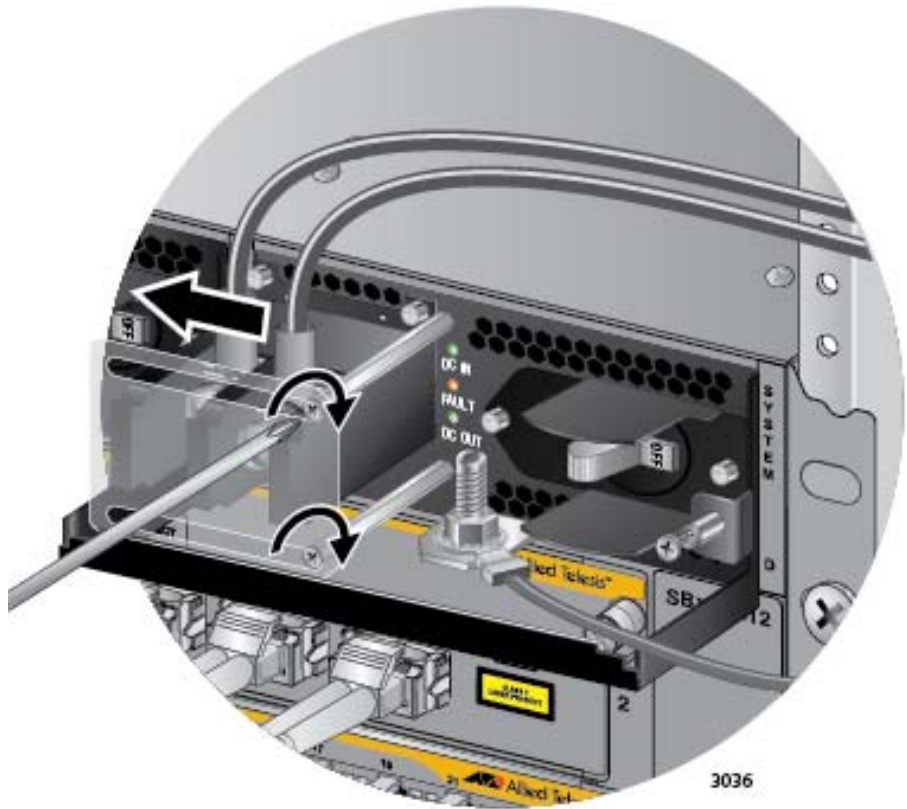

Figure 123. Closing the Plastic Cover over the Terminal Connectors
8. Slide the plastic cover to the left and lightly tighten the two screws with a #1 Phillips-head screwdriver to secure the cover. See Figure 123 on page 185. You might need to lift the locking handle slightly to access the bottom screw.
6. Slide the plastic cover to the left and lightly tighten the two screws with a #1 Phillips-head screwdriver to secure the cover. See Figure 123 on page 185. You might need to lift the locking handle slightly to access the bottom screw.